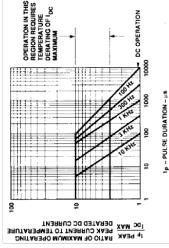

Figure 7. Maximum Tolerable Peak Current vs. Pulse Duration - HER
- See Figure 7 to establish pulsed conditions.